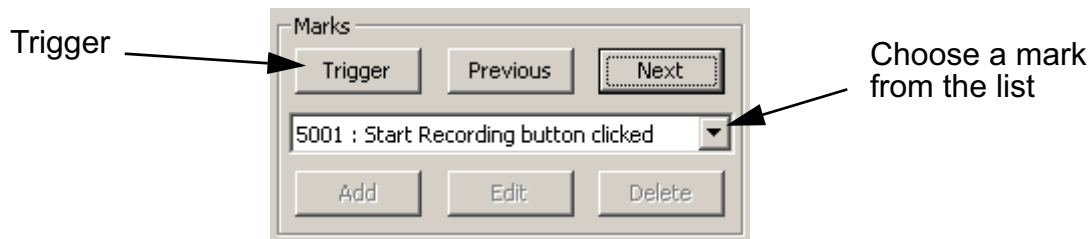

Figure 4.5: Finding Marks
- Click **Trigger** (see Figure 4.5). Note that the “trigger event” can be clicking the **START** button, an actual trigger, or a No Go event.
- Use the drop-down list in the **Marks** area to choose a mark (see Figure 4.5). As soon as you click on a mark in the list, VibeReview jumps to that position in the file.